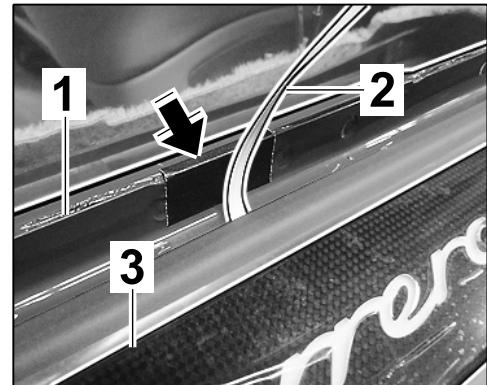

Figure 17
3.3 To protect the flat conductor path on the body flange \Rightarrow Figure 17-1-, stick wrapping tape/insulating tape \Rightarrow Figure 17-arrow-around the body flange.